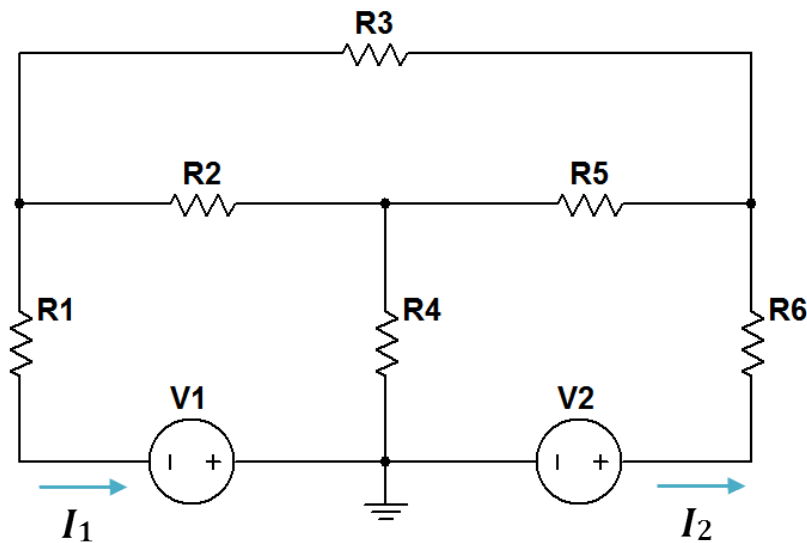

Figure 2.4: Circuit for Problem 2.4
Enter the circuit of Figure 2.4 into NI Multisim. Use measurement probes to measure each current, and use the wattmeter to measure the power associated with each voltage source.
Build the circuit of Figure 2.4 on the preceding page. Use the myDAQ DMM (digital multimeter) as an ammeter to measure each of the two currents; use the DMM as a voltmeter to measure each of the two voltage source values.
- Place the resistors to match the resistor orientations shown in Figure 2.4 on the previous page.